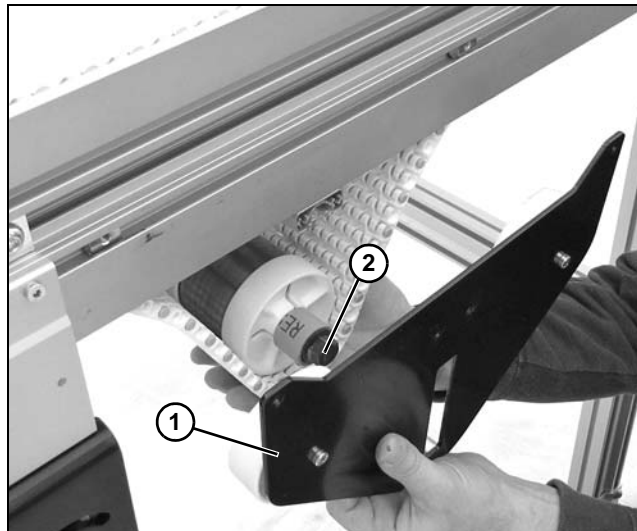

Figure 121
3. While holding belt from underneath, remove weighted take-up plate assembly (**Figure 121, item 1**) from weighted pulley assembly (**Figure 121, item 2**).